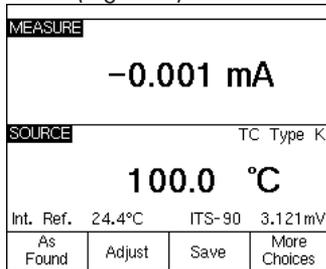

Figure 4
5. Next press the "MEAS/SOURCE" button once and you will be in the split screen mode (Figure 4).